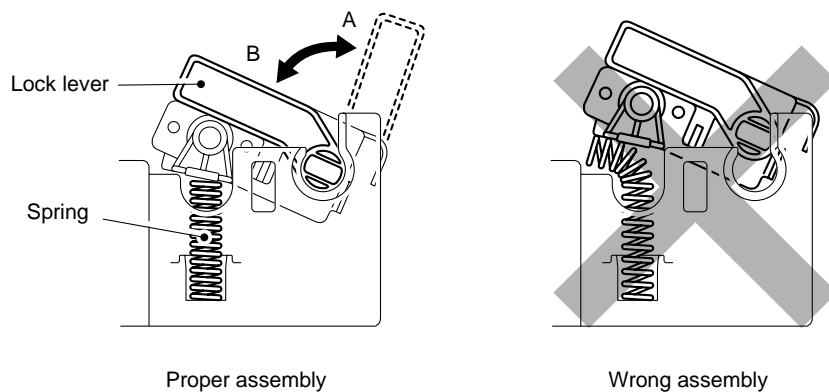

Fig.6-25
- 1) Lift the transfer roller 2 lock levers at both sides (right & left) to the arrow direction A. (Fig.6-25)
- iii) Push the transfer roller 2 shaft into the slit and place the bearing of the roller onto the spring. Ensure that the spring is not bent as shown in Fig. 6-25.